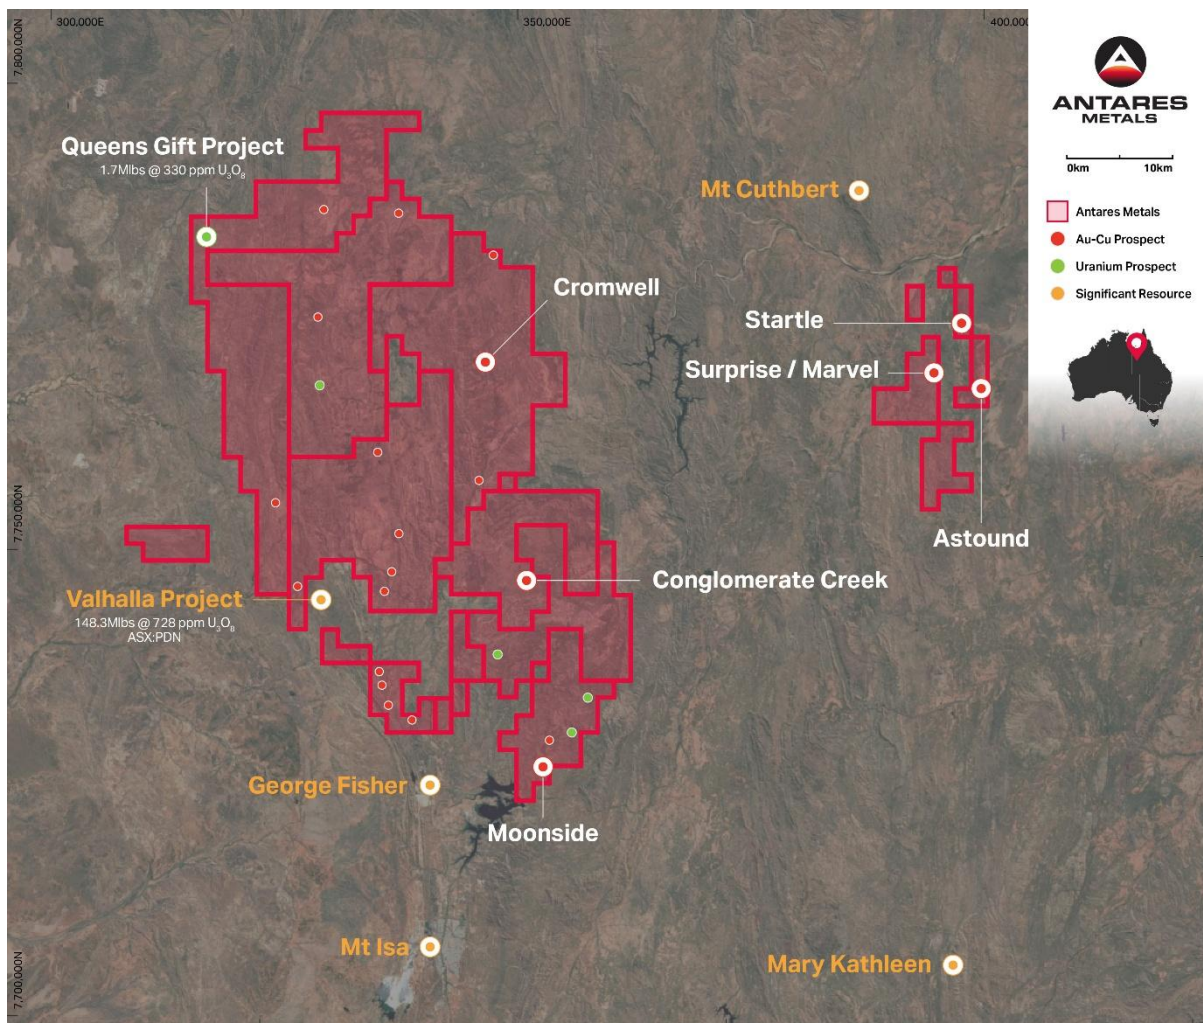

Figure 1: Location Map Mount Isa North Copper Project
- **Concurrent field programs are underway at Mt Isa North (QLD) and Quinns (WA)**, where a Program of Work for maiden drilling has been approved.
Antares Metals Ltd (ASX: AM5) (Antares, AM5 or the **Company**) is pleased to report the results of a maiden reverse circulation (RC) drilling program at the Conglomerate Creek Target 2 prospect, part of its 100%-owned Mount Isa North Copper Project located in northwest Queensland (see Figure 1).